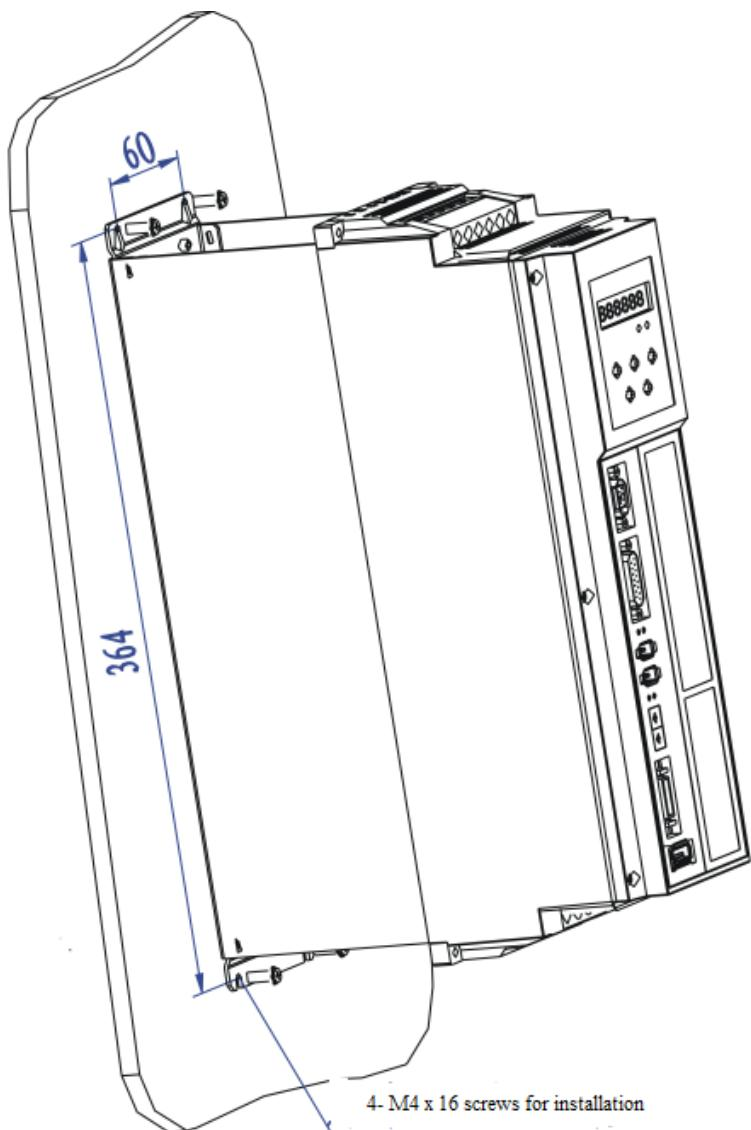

Figure 5.4.2 Wall mounted installation mode of HSV-180US-035, 050, 075 spindle
- Wall mounting with auxiliary device, as shown in Figure 5.4.2